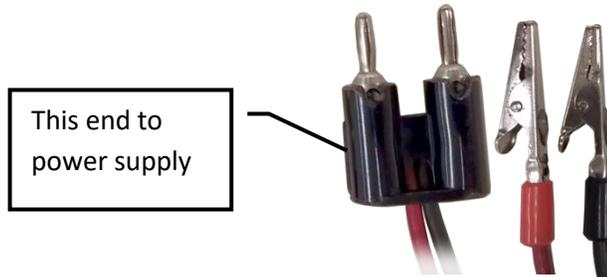

Figure 5: Double Banana to Alligator clip
5. Connect a red and black double banana to alligator clip to the **E3620A Power Supply**. (See Figure 5) **Be careful not to touch the red and black alligator clips together! This is known as a short.**